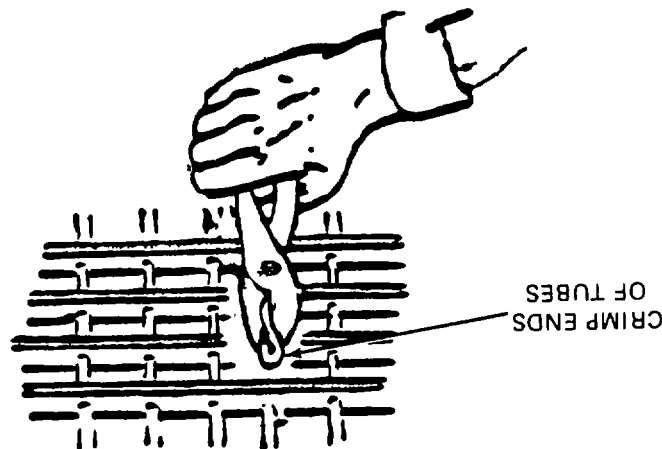

Figure 6-4. Radiator Core, Puncture Repair.
- (g) Squeeze the tube ends together and fold each end over on itself approximately 1/2 inch (figure 6-4).